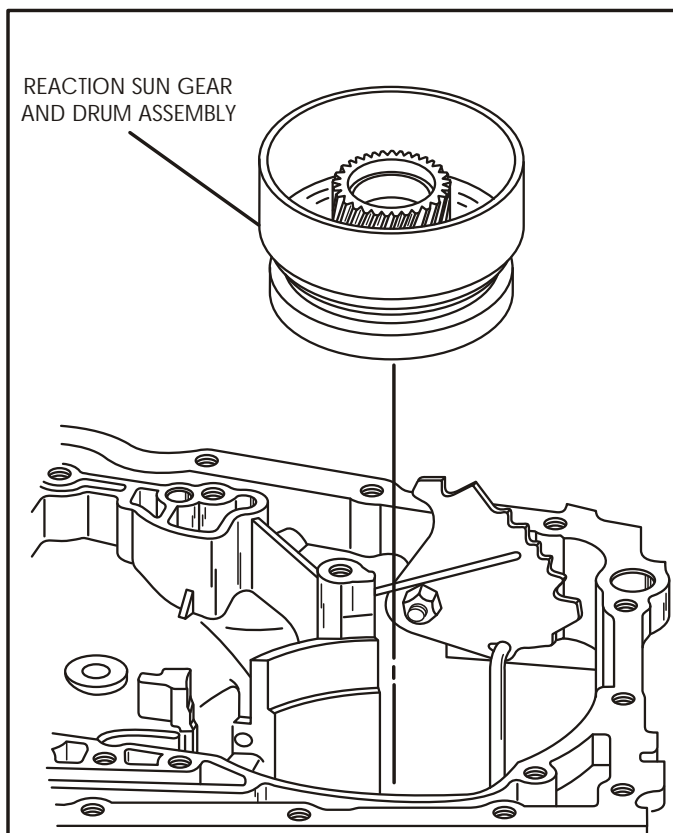

Figure 158
38. Install the reaction sun gear and drum assembly by rotating counter-clockwise into position, as shown in Figure 158.